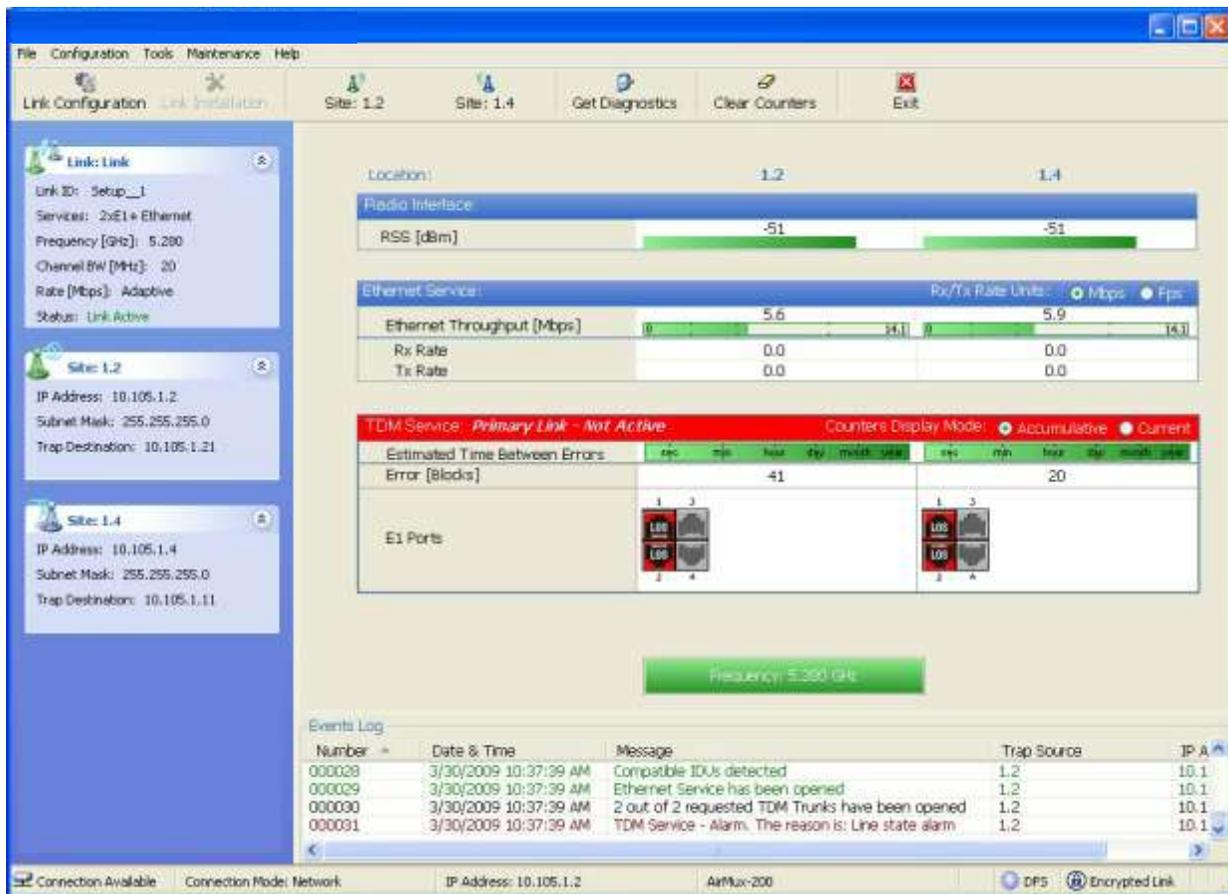

Figure H-10. Primary Link after the Switchover to Secondary Link
*Note* After a few seconds the display in Figure H-10 moves to No-Link display, with TDM ports grayed out.